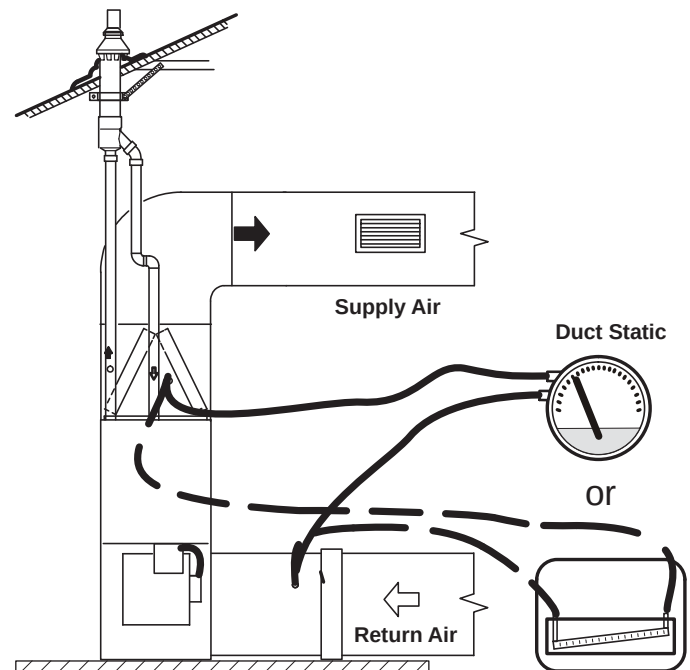

Figure 22.
- 1 - Tap locations shown in Figure 22.